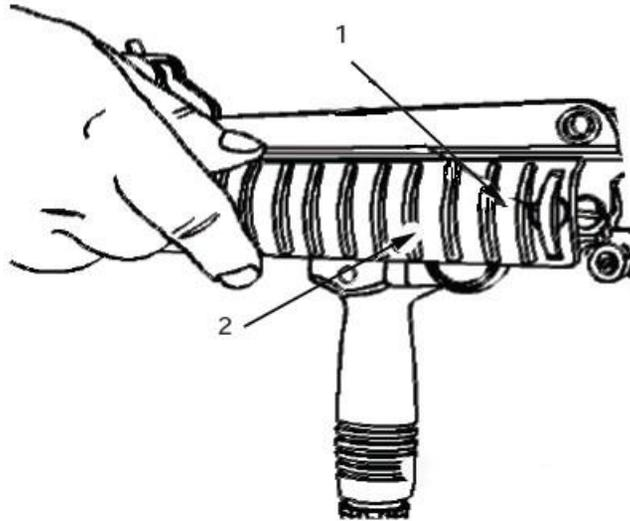

Figure 11. Vertical Pistol in Full Rearward Position and current version Forward Hand Grip.
6. Rail covers (Figure 11, Item 1) are quickly attached and detached from the rail adapter. A retaining clip (Figure 11, Item 2) at one end of each rail cover (Figure 11, Item 1) automatically engages cutouts positioned at either end of the three rail sections. To slide a rail cover (Figure 11, Item 1) beyond cutout, or to move it, slide it in the desired direction while applying thumb pressure to the retaining clip (Figure 11, Item 2).
7. To cover the side rail surfaces, install the rail covers (Figure 11, Item 1) from the muzzle end of the adapter rail with the retaining clip (Figure 11, Item 2) forward. To cover the bottom rail surface, install from the rear with the retaining clip (Figure 11, Item 2) forward.